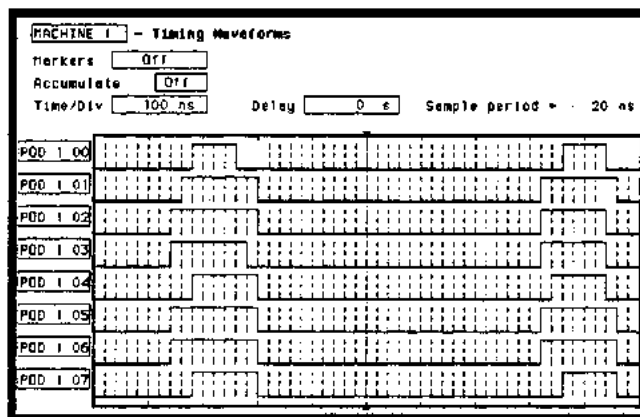

Figure 3-35. Glitch Test Timing Waveforms
6. Press RUN. The timing analyzer acquires data and shows glitches for channels under test as in figure 3-35. Select the **Delay** field and rotate the knob to assure consistent glitch detection.